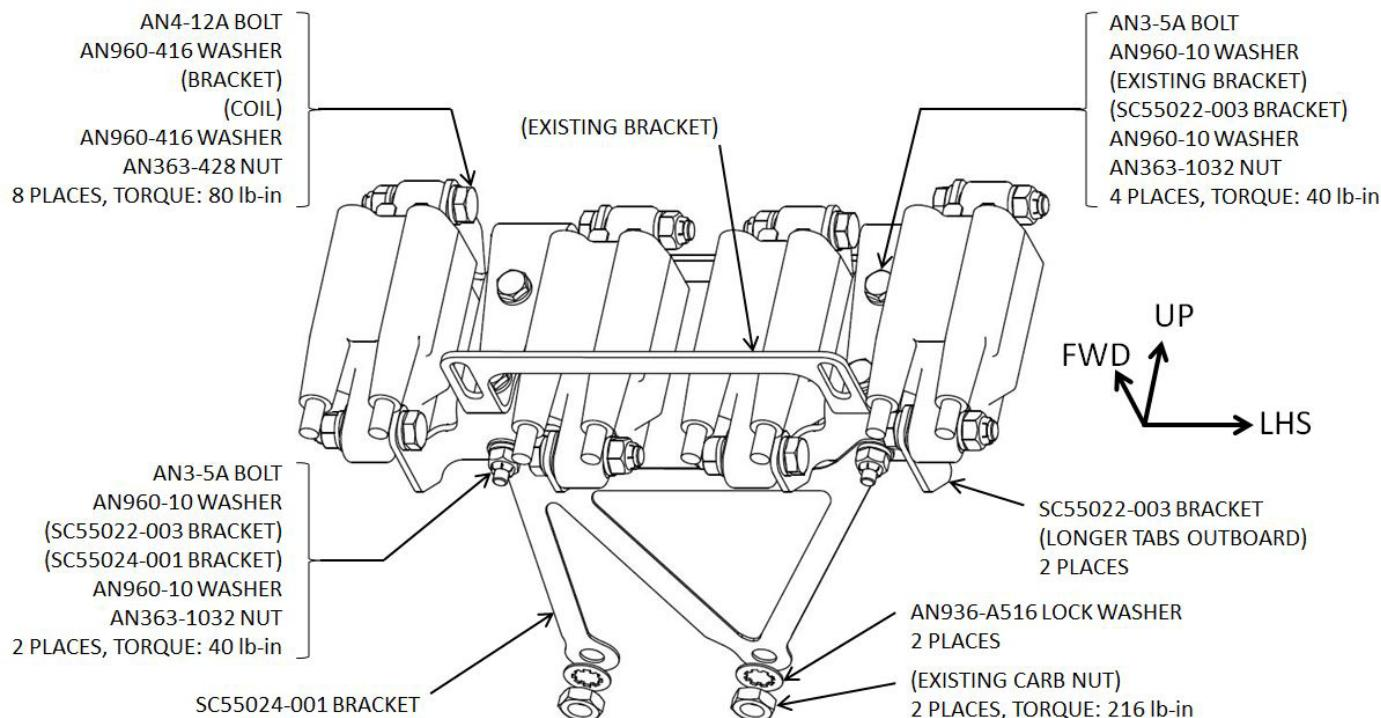

FIGURE 3 – COIL INSTALLATION
- Install SC55022-003 brackets on each of the two vertical portions of the existing bracket as shown in Figure 3. Note that the longer coil mounting tabs on SC55022-003 brackets should be positioned outboard of the existing bracket. (This will position the outer two coils slightly forward of the center two coils).
10. Install the new style ignition coils on the SC55024-001 brackets as shown in Figure 3. Note that hardware is easiest to access if the center two coils are mounted on their respective brackets before mounting the brackets in Step 9. The outer two coils should be installed after the brackets are mounted.
11. Install the SC55024-001 stay bracket between the SC55022-003 brackets and the two forward carburetor mounting studs as shown in Figure 3. Use the two original carburetor nuts removed in step 7, each with a new AN936-A516 washer. Apply torque stripe after torqueing.